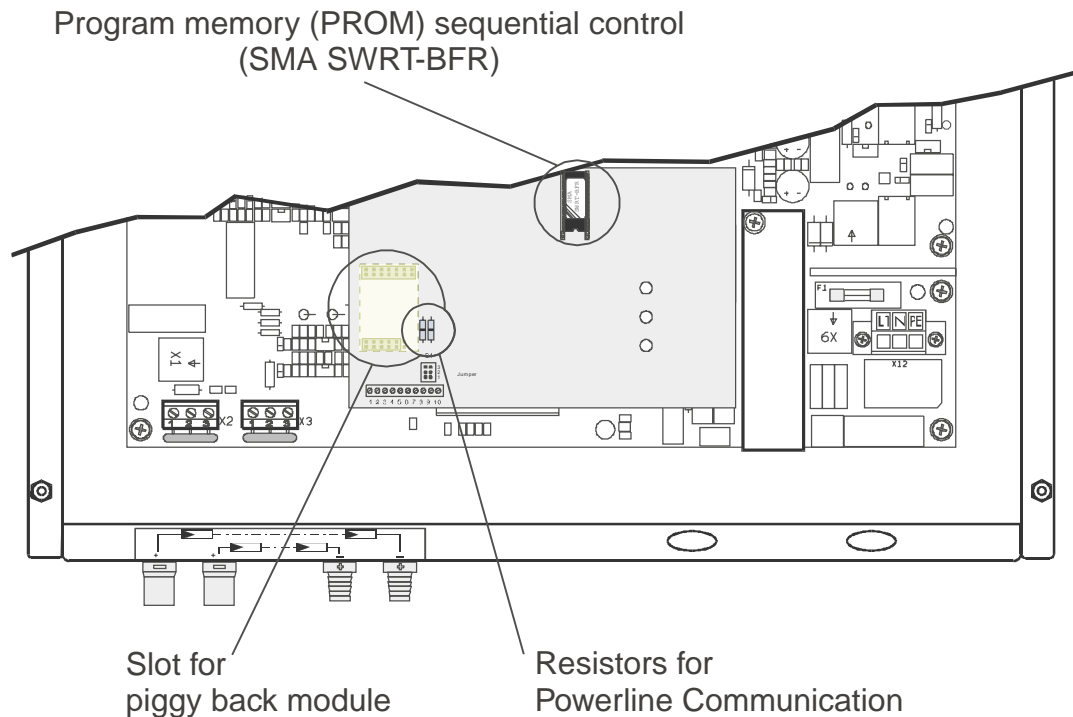

Fig. 6.6: Sunny Boy 2000 sequential control board
- The Powerline piggy back modem is installed (see Fig. 6.6).
- The blue resistors under the piggy back have to be installed for Powerline communication (see Fig. 6.6, page 59).